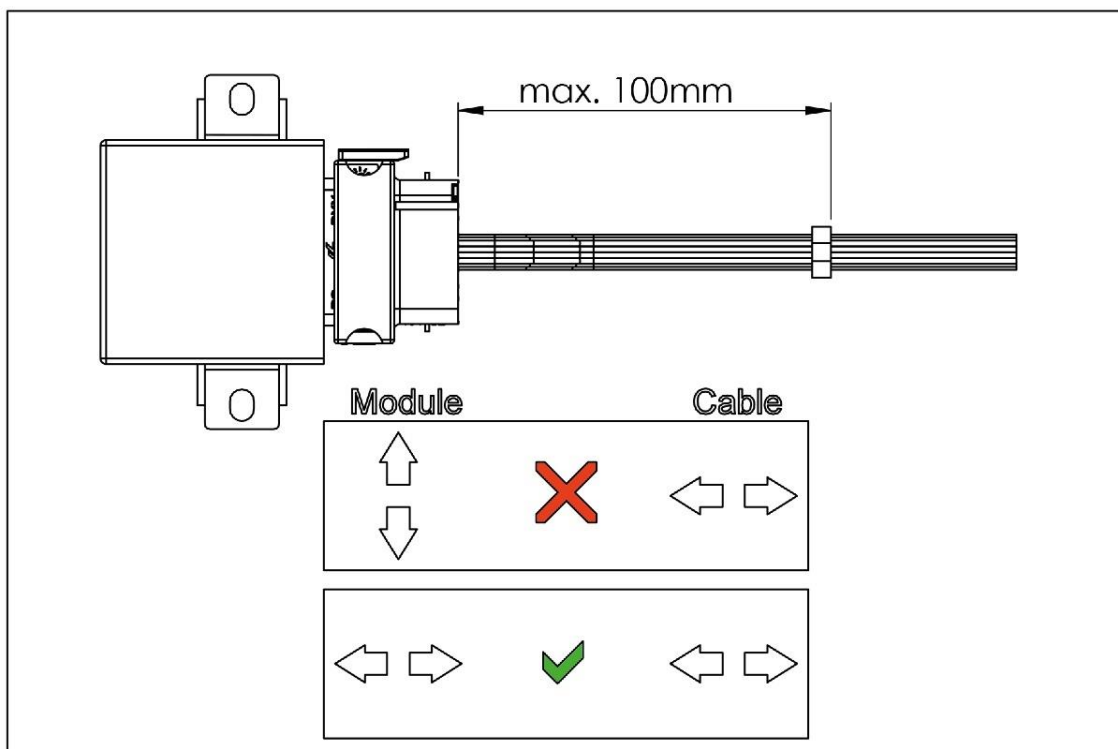

Figure 1: Strain relief of the cable harness (example). 100 mm (max.) are mandatory, control unit may vary.
- The cable routing must be selected in such a way that the cable harness only moves identically to the direction of movement of the controller/plug. (Attachment controller/cable/strain relief on the same underground). A strain relief is necessary (see Figure 1).